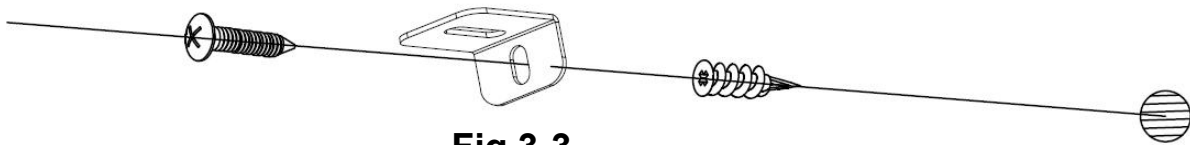

Fig 3-3
C. Install the plastic anchor **(C)** into the dry wall, then install the screw **(B)** (supplied) into the hole of the L-bracket into the wall anchor to secure the fireplace from coming off the hooks. **(Fig 3-3)**